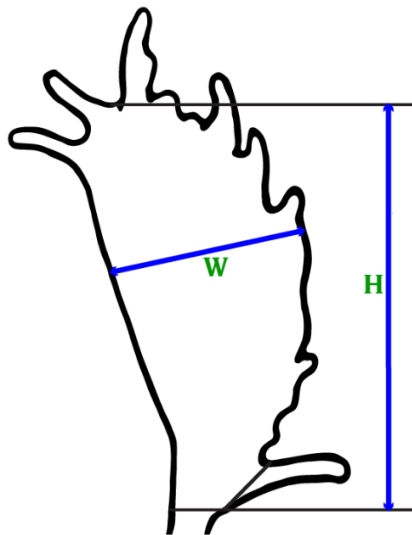

Figure 4
3. Height. Measure the height of each palm on the outside of the antler from the point where the tine backwards grows to the farthest indentation between the tines on the top of the palm. (Figure 1, H) The lower point of this measurement should be taken where the base line of the lowest tine on the back of the palm ends. Note in Figure 4 where the tine has been marked off by a line. See GDI on how to draw a base line.